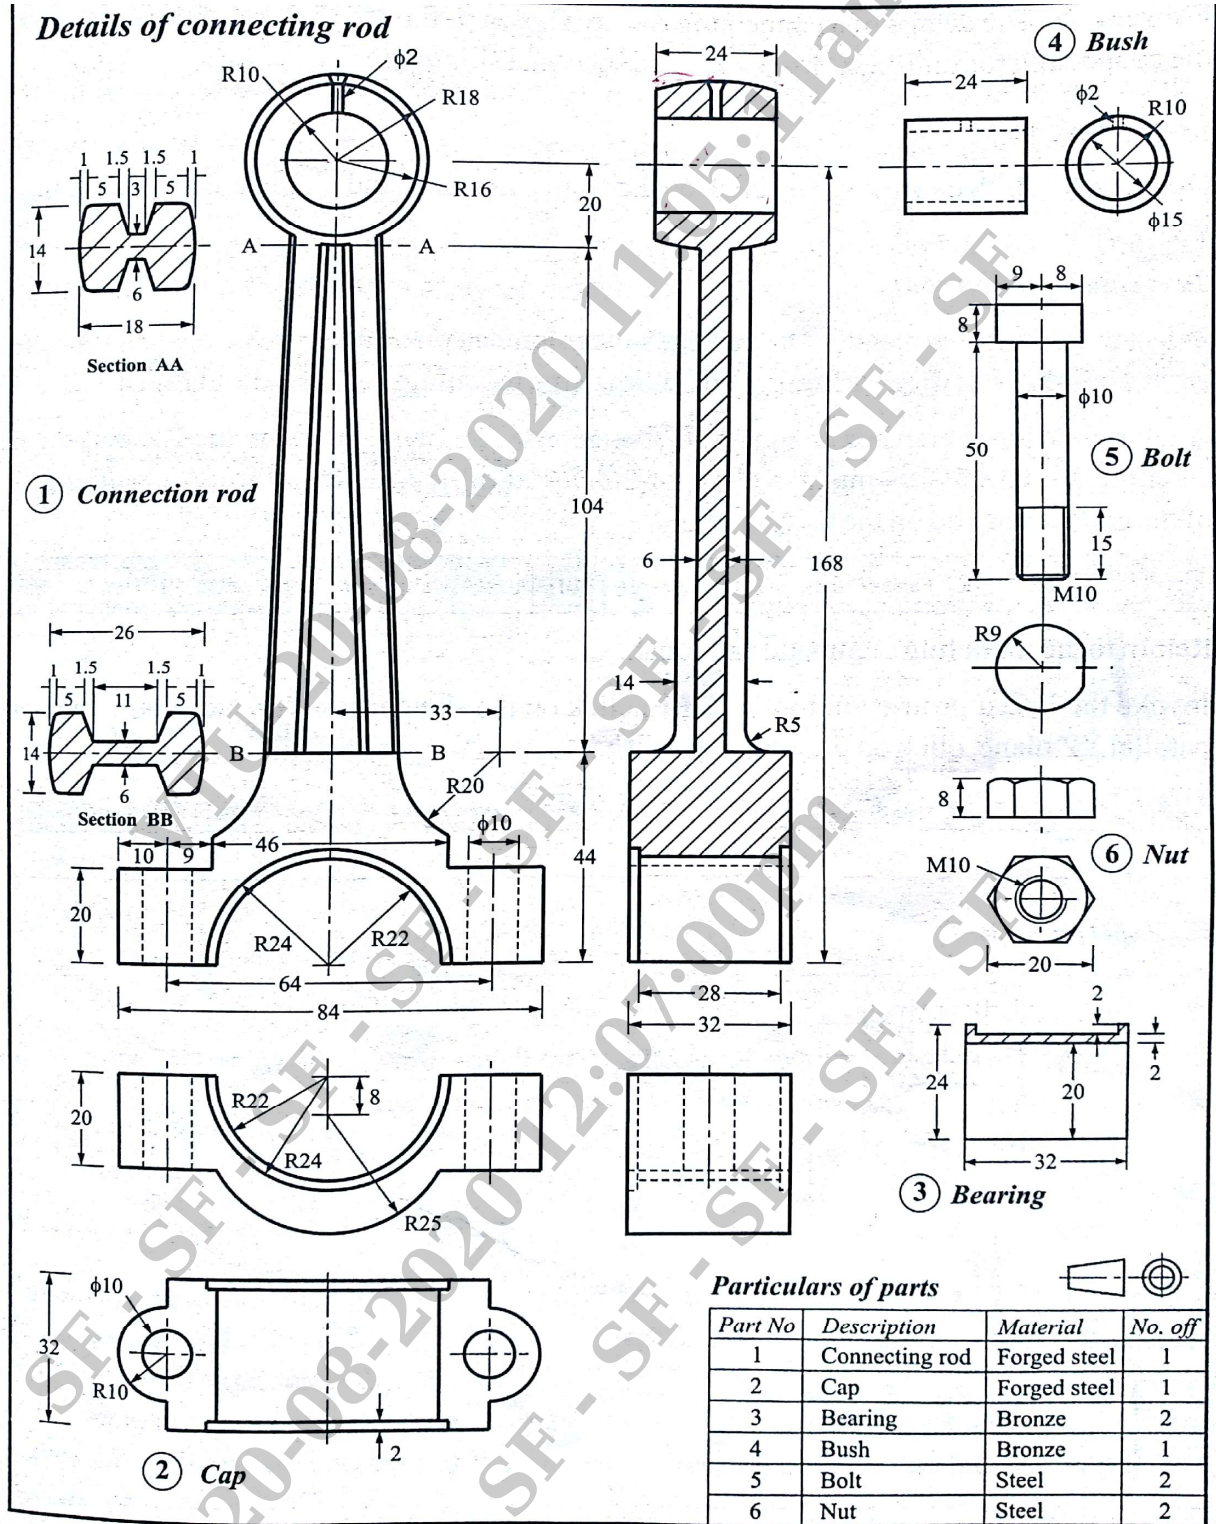

Figure 2: Details of Connecting rod
Q. No. 6 Figure: 2 Shows the details of "I C Engine of Connecting rod". Assemble the parts and draw the following: a) Sectional front view b) Top view